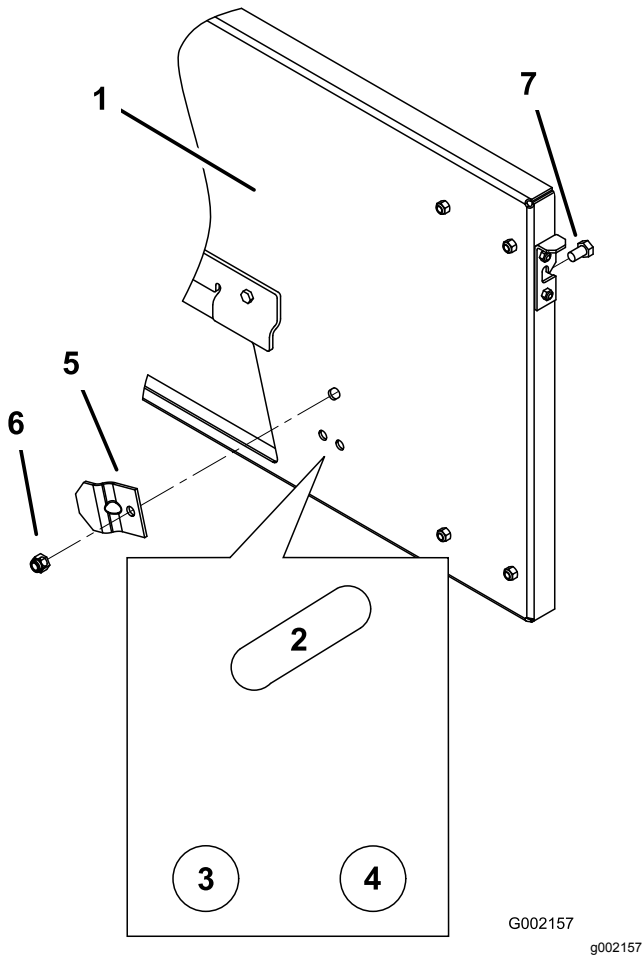

Figure 7
- A. Select the appropriate hole in the back plate for your mower size (Figure 7).
- B. Install the bagger clamp in the hole using a bolt (3/8 x 5/8 inch) and locknut (3/8 inch), as illustrated in Figure 7. The clamp should fit over the mower frame securing the back plate.